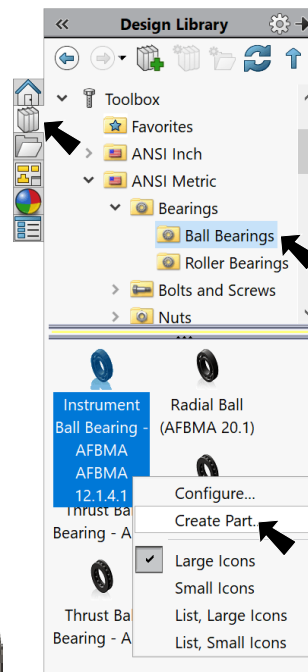

Fig. 2
Step 1. Click **Design Library** tab  in the Task Pane (right side of graphics area), **Fig. 2**.
Step 3. In the lower pane, **right click Instrument Ball Bearing...** and click **Create Part** from menu, **Fig. 2**.